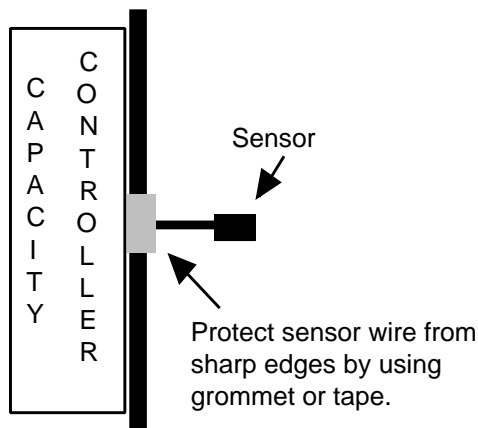

Figure 2. Capacity Controller Mounted with Sensor
- D. For the 101ALAS, or if mounting any other model with the sensor integral with Capacity Controller; place sensor through hole made in duct and mount Capacity Controller to duct with screws. Use grommet or tape to protect sensor wire from sharp edges. **See Figure 2.**